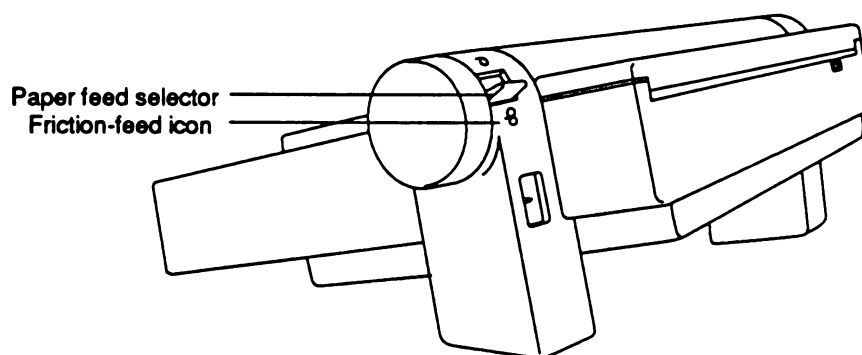

Figure 19. Paper feed selector set for friction feed
2. Set the paper feed selector to the down position for friction feed, as shown in Figure 19. Choosing friction feed turns off the pin-feed mechanism.